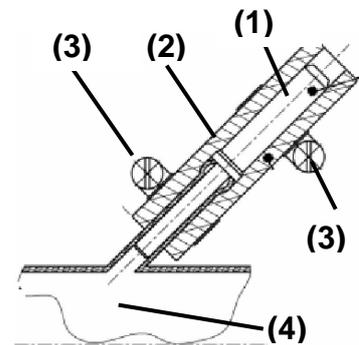

Bild 8/ Figure 8
- *Detach the thermostat cap (P/N 54.81.35.010) by removing two clamps Ø10-18 and the hose (length: 65 mm) (P/N 54.81.31.030), keep the two clamps and the hose for reassembly. See Figure 8.*